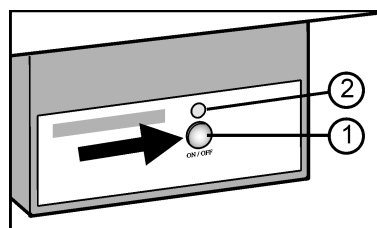

Fig. 4
- Press On/Off button Fig. 4 (1) so that the LED Fig. 4 (2) lights up.